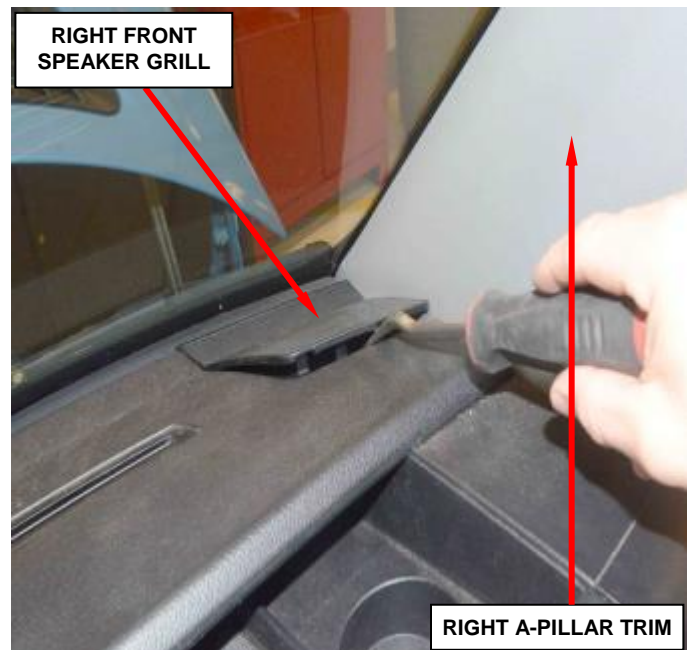

Figure 110 – Right Front Speaker Grill
7. Remove the right front speaker grill (Figure 110).